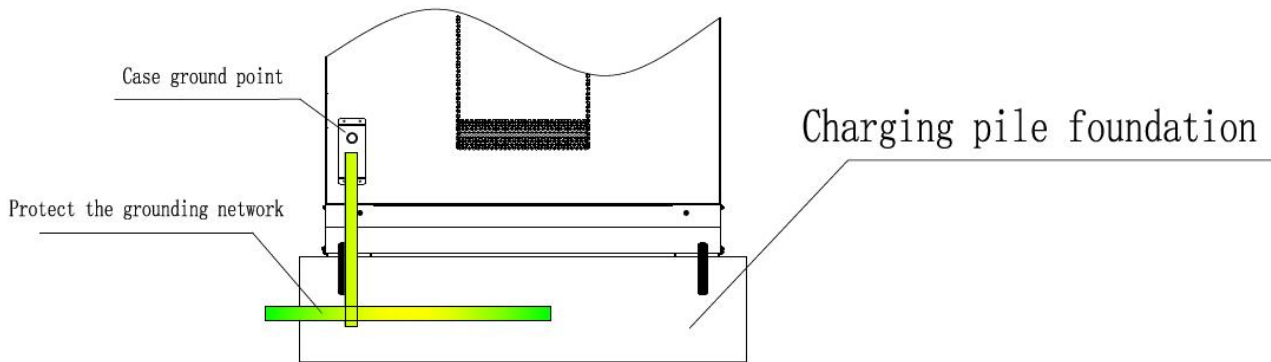

Figure 15
- Connect the case ground point with galvanized flat iron or cable, as shown in Figure 15.